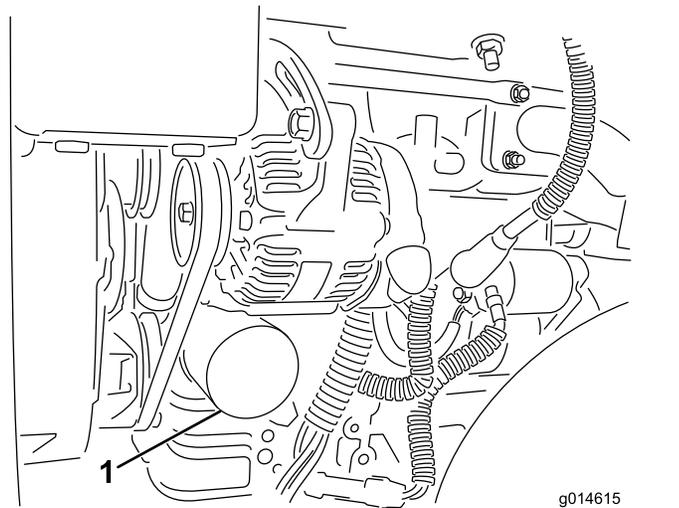

Figure 34
2. Remove the oil filter (Figure 34). Apply a light coat of clean oil to the new filter gasket.